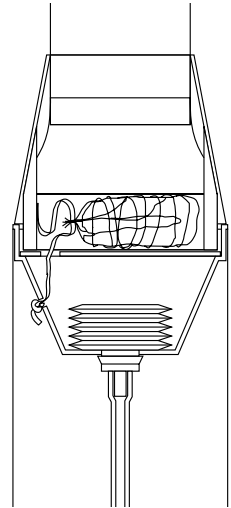

Figure 31
8. Stack the plastic transition cone and 8" tube on top of the rocket (Figure 31).